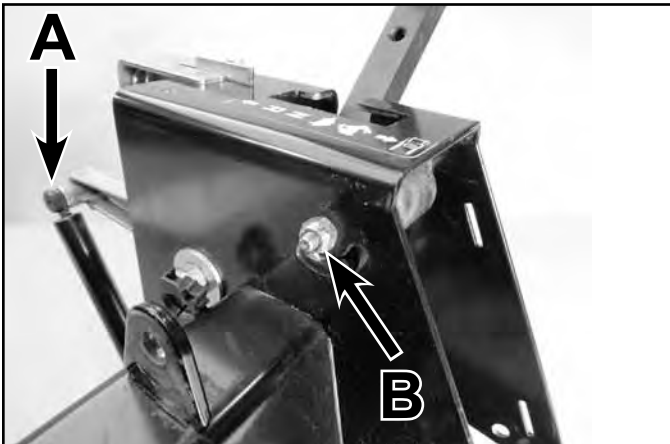

Fig. 029
2. Remove the upper damper shoulder bolt and washer (A).
3. Note orientation, then remove the eccentric fastener (B) and eccentric from the control box (Fig. 029).